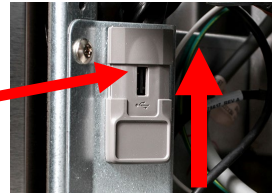

Figure 5
2. **INSERT USB.** The USB port is located inside the **far-left cabinet, on the left-hand side**. Slide or lift the cover up to reveal the USB port (see Figure 5). These may differ in appearance.